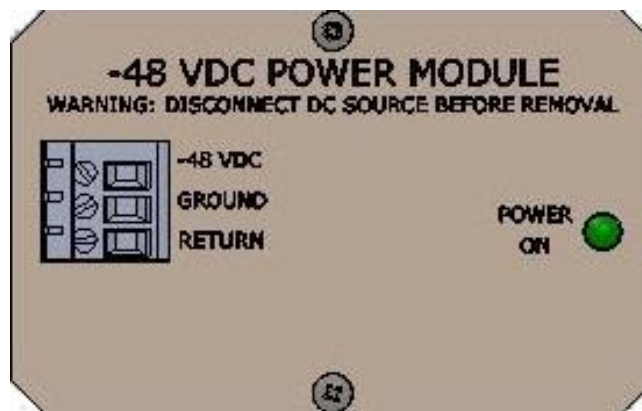

Figure 1 – OCS Power Module (Close Up)
1. Check the LED on the power module. It should be lit solid green, as shown in Figure 1.